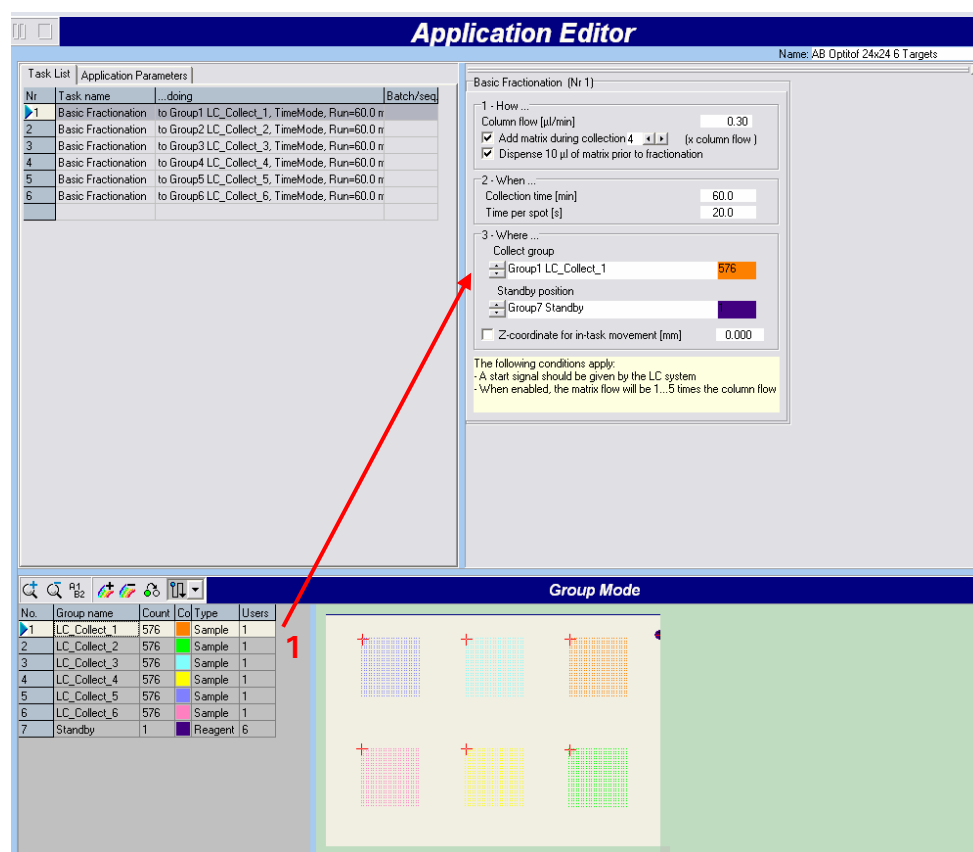

FIGURE 2-17 6 Sample Carriers, 1 Group on each Sample Carrier
- f) To remove the group, make sure that it is not used as 'Collect group' or 'Standby position' in a task, e.g. 'Users' must be '0' (item 1, FIGURE 2-17). Unselect if appropriate, and then use the **Delete Group** button.